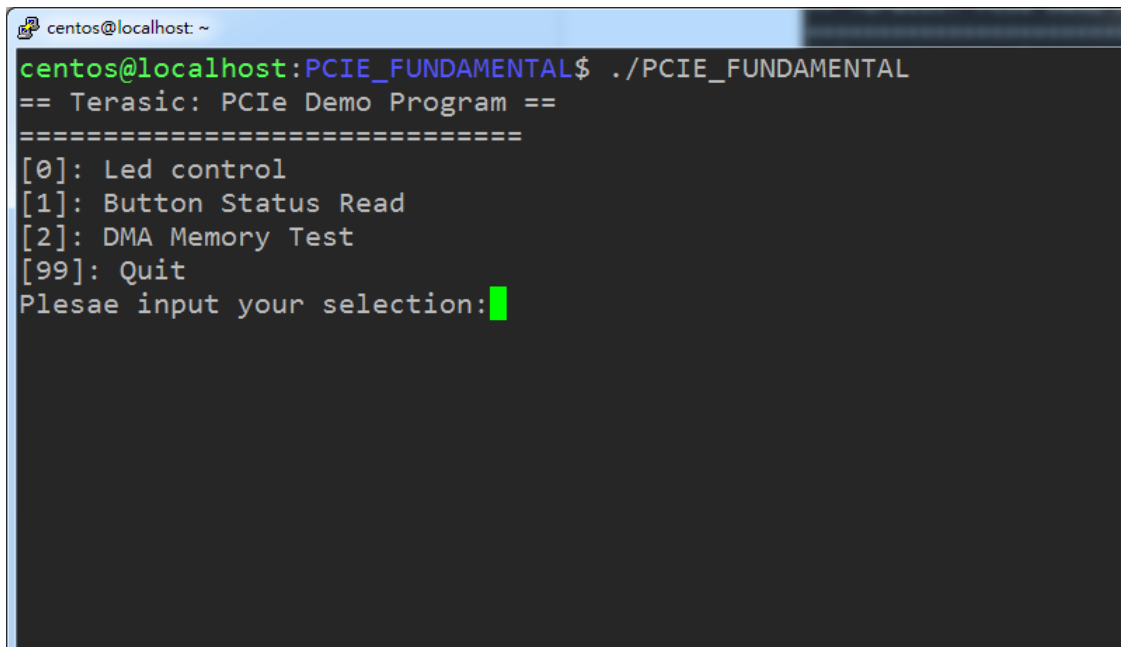

Figure 8-5 Screenshot of Program Menu
8. Goto linux_app folder, execute PCIE_FUNDAMENTAL. A menu will appear as shown in **Figure 8-5**.